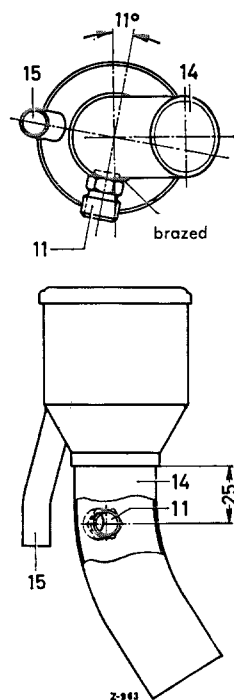

Fig. 07-0/26
b) In order to avoid damage to the fuel return line (12) grind down the welding seam along the longitudinal member over a length of approx. 10 cm (see Fig. 07-0/27).
13. Slide the hose (7) onto the fuel return line (12) and fasten with a hose clip.